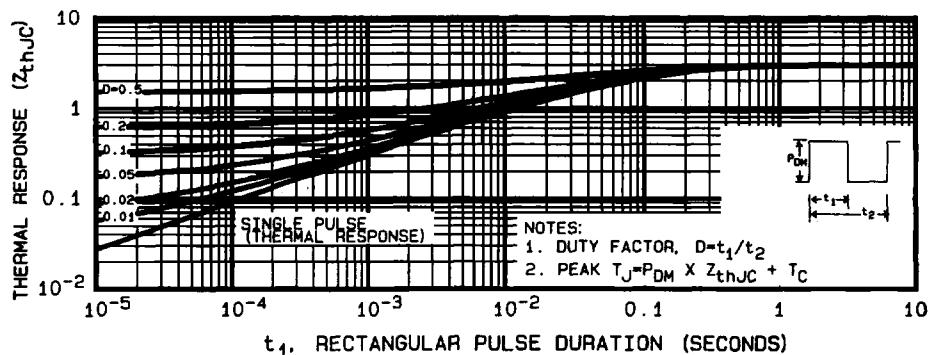

Fig. 5 - Maximum effective transient thermal impedance, junction-to-case vs. pulse duration.
1. Repetitive Rating: Pulse width limited by max. junction temperature. See Transient Thermal Impedance Curve (Figure 5)
① Repetitive Rating; Pulse width limited by maximum junction temperature (see Fig. 5).
③ Pulse Width $\leq 300 \mu s$; Duty Cycle $\leq 2\%$.
④ Mounting pad must cover heatsink surface area. See Case Style drawing on front page.
② At $V_{DD} = 25 V$, Starting $T_J = 25^\circ C$, $L = 770 \mu H$, $R_G = 25 \Omega$, Peak $I_L = 8.4 A$.